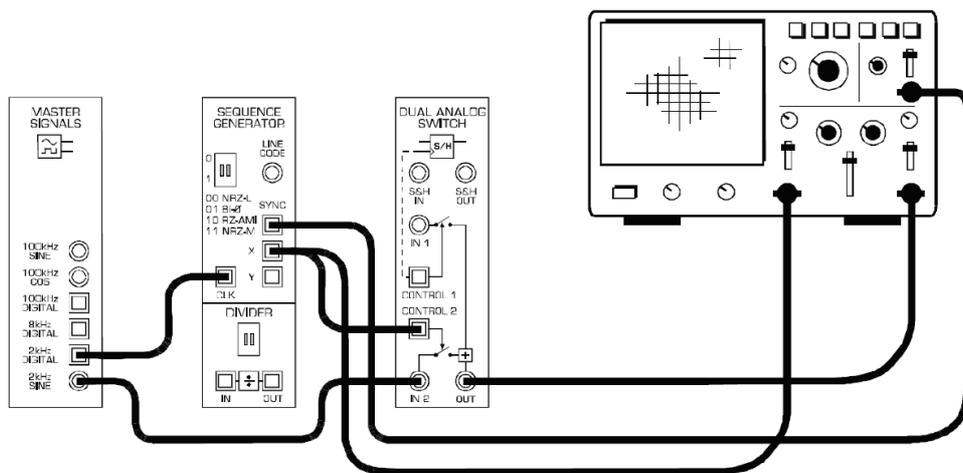
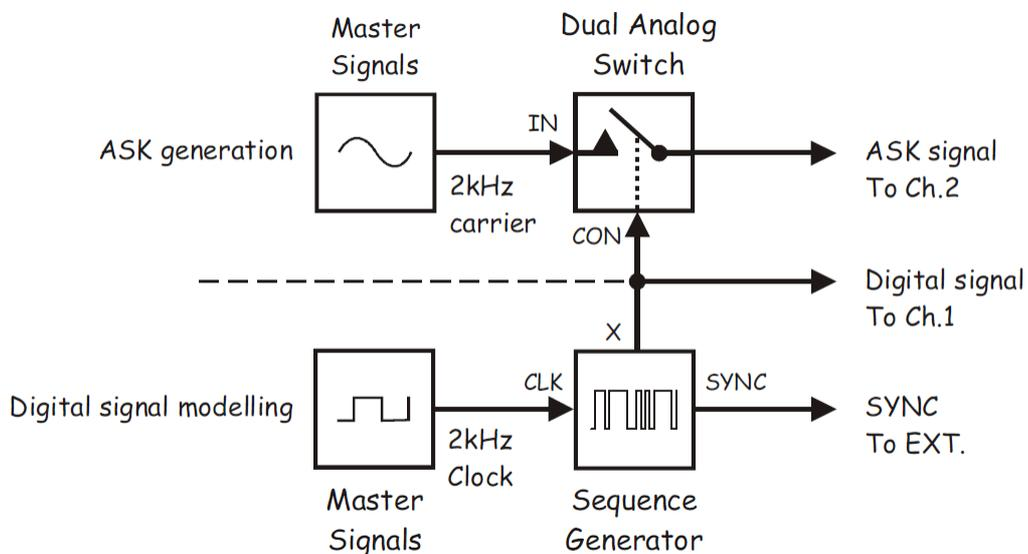

Figure 2: the set-up for an ASK signal generation
Figure 3: block diagram of Figure 2
3. Connect the set-up shown in Figure 2 below.
The set-up in Figure 2 can be represented by the block diagram in Figure 3 below. The Sequence Generator module is used to model a digital signal and its SYNC output is used to trigger the scope to provide a stable display. The Dual Analog Switch module is used to generate the ASK signal.